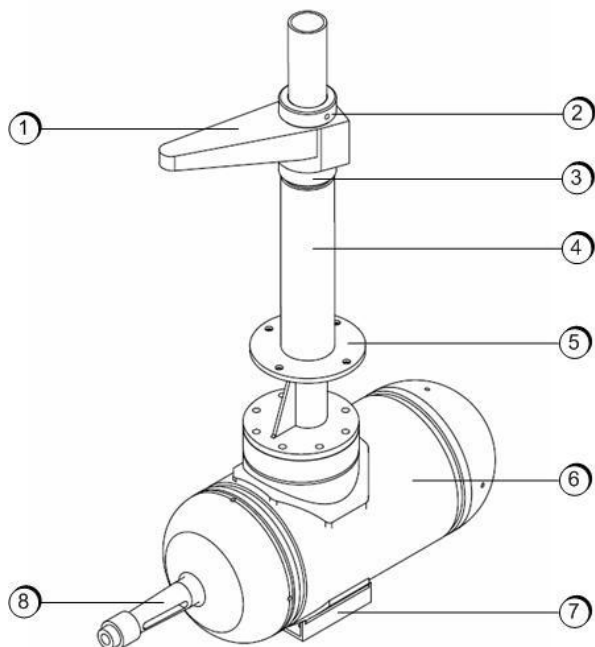

Figure 8: Mounting the motor
2. Remove the lever arm and supporting rings from the rudder trunk (see Figure 8, item 1, 2, and 3).
4. Bolt the rudder trunk to the hull by using the 4 holes in the mounting flange (see Figure 8, item 5).